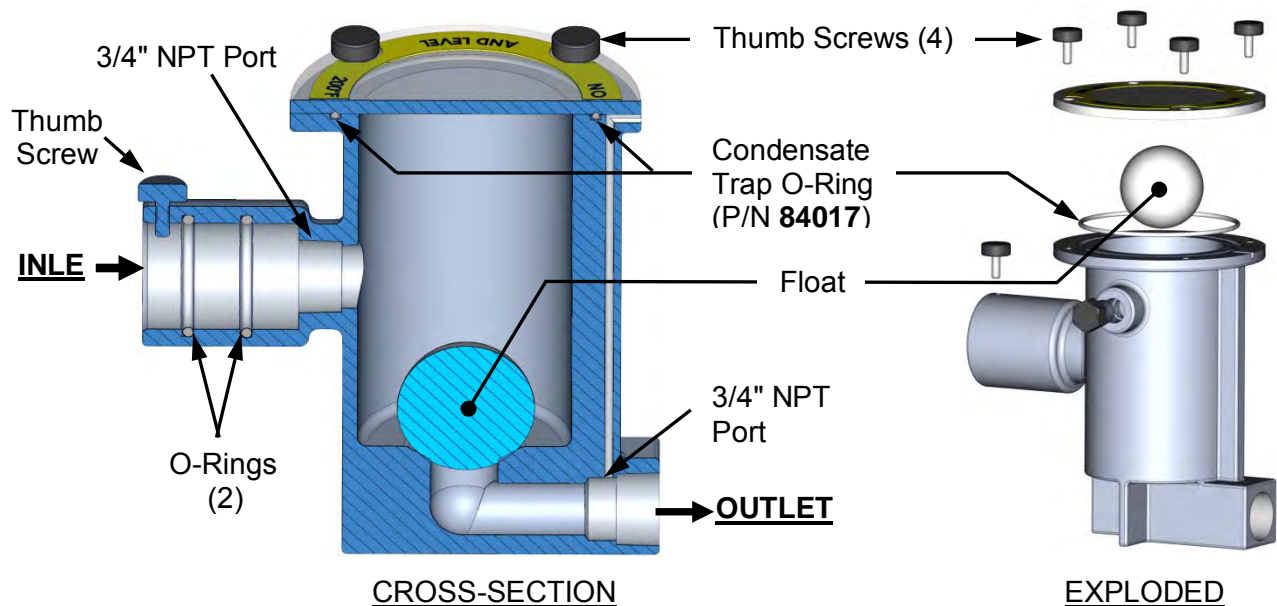

Figure 7-6: External Condensate Trap – Cross-Section & Exploded View
1. Disconnect the external condensate trap by loosening and then removing connections on the inlet and outlet sides of the condensate trap (see Figure 7-6).
2. Loosen the four (4) thumbscrews securing the trap's cover and then remove the cover and the O-ring from under the cover.